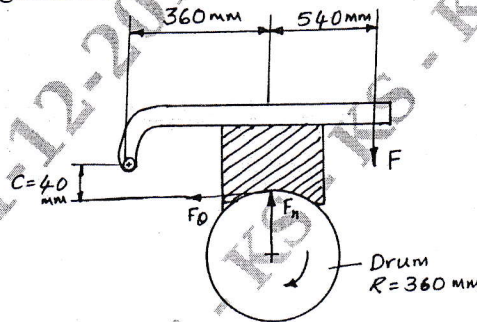

Fig.Q6(b)
- b. A 360 mm radius brake drum contacts a single shoe as shown in Fig.Q6(b) and sustains a power of 23.5 KW at 1000 rpm. Determine: